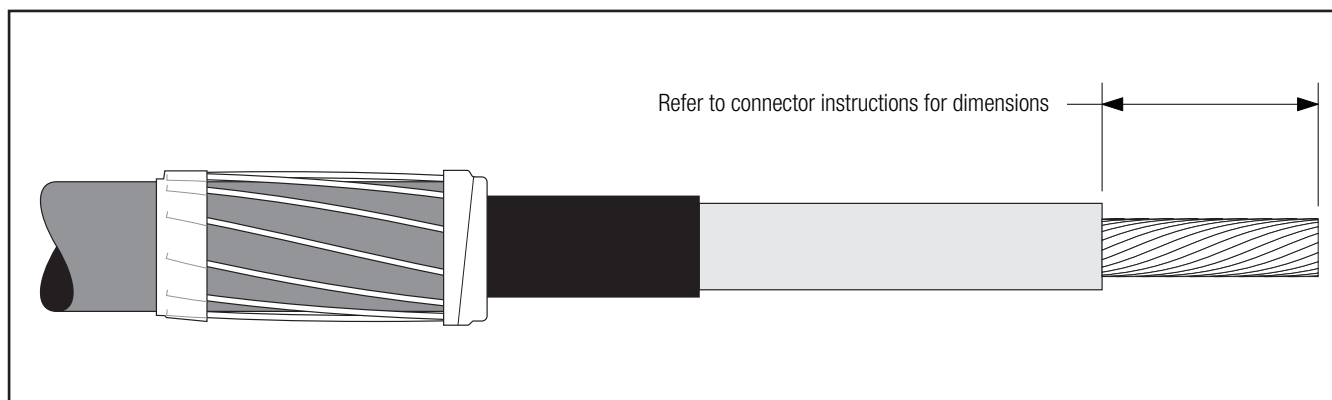

Figure 6
- 3.1 If using a 3M Shearbolt Connector QCI 350 - 750, refer to the instructions included with the connector for insulation cut-back dimension. Insulation removal length shall not exceed 3 1/2" (89 mm) from conductor end (*Figure 6*).